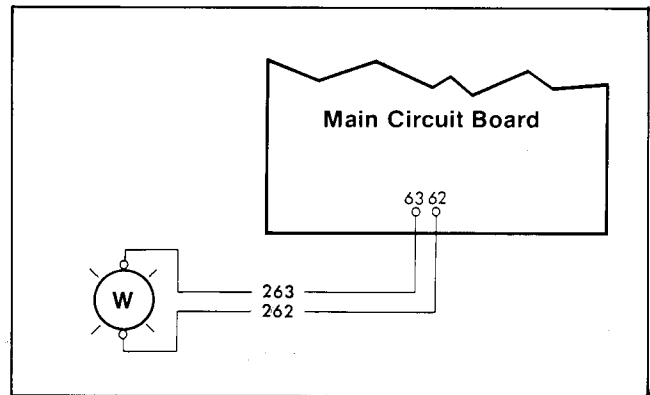

Figure 22. 12-E, G Connections
- **Acc. 12-E, G Normal Source**, lights to show normal source available. See Figure 22 for connections.